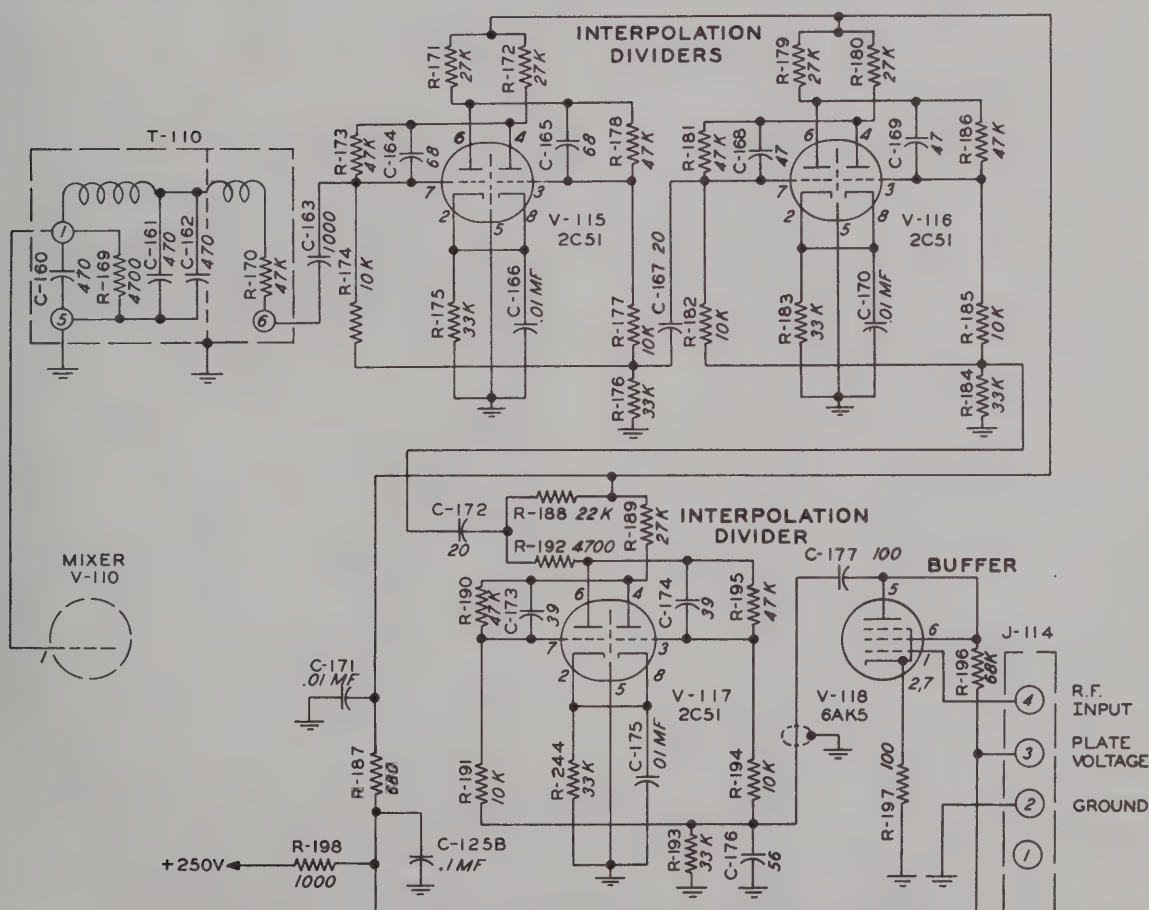

Figure 98. R-F Oscillator O-91/FRT-5, Buffer and Interpolation Dividers, Schematic Diagram.
3. *Interpolation dividers (fig. 98).* The interpolation dividers operate in the same way